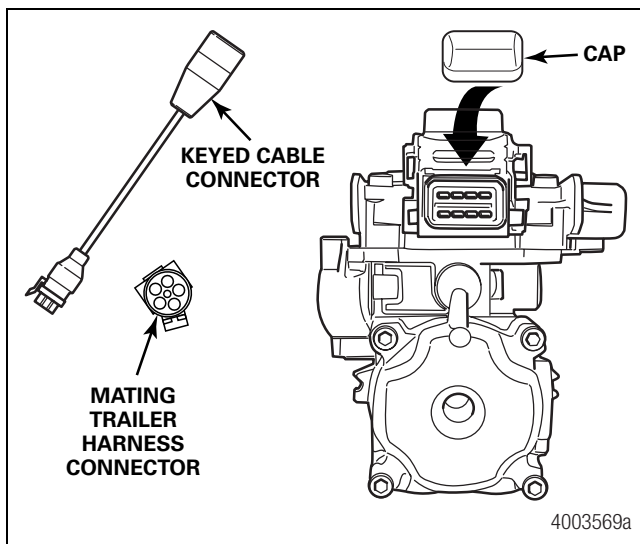

Figure 9
1. Push the hinged power connector retaining clip **UP** and remove the protective cap from the ECU/modulator valve assembly. Plug the 8-pin connector on the power or power/diagnostics adapter cable into the ECU/dual modulator valve assembly. WABCO identification (lettering on the 8-pin cable connection) must face **DOWN**. Pull the hinged power connector retainer clip on the ECU/dual modulator valve assembly **DOWN** to secure the connection. Figure 9.